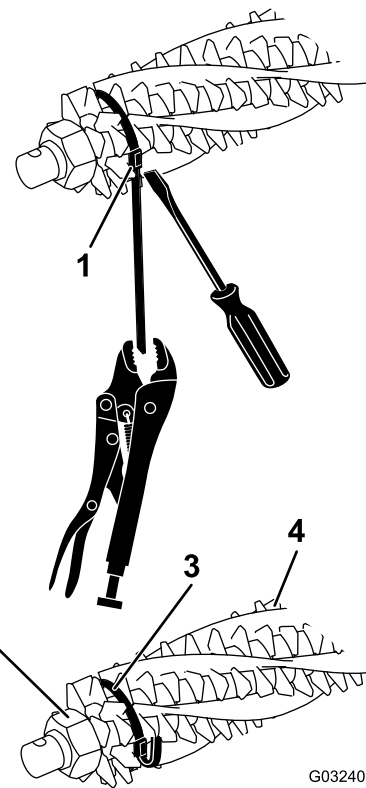
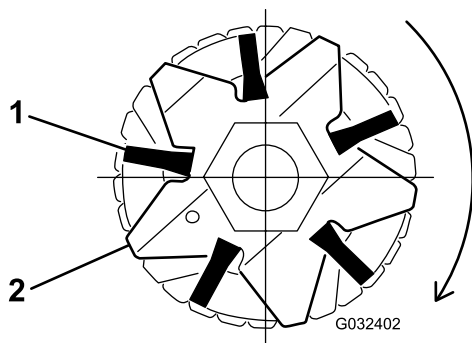

Figure 18
Figure 20
2. Loosen the groomer blade-retaining nuts on each end of the groomer shaft (Figure 18).
4. Verify that the brushes are seated in the groomer blade slots (Figure 18 and Figure 20).
5. Loosely wrap the straps, as shown in Figure 18, around the groomer reel shaft and brushes inserting the straps in the grooves in the brushes Figure 20.
Note: If the broomer brushes are not seated properly in the blade slots, loosen the groomer-blade retaining nuts on each end of the groomer shaft, position the broomer brushes properly in the blade slots, and tighten the groomer-blade retaining nuts (Figure 18).
7. While pushing a screwdriver against the strap buckle, grasp each strap with a locking pliers and pull the straps tight until they lock into the brush grooves (Figure 18).